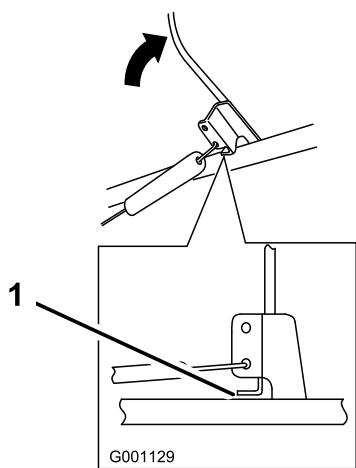

Figure 20
- Ensure that a 1/16 to 1/8 inch (2 to 3 mm) gap exists between the control bar and the handle (Figure 20). To adjust the cable, refer to Adjusting the Cable below.